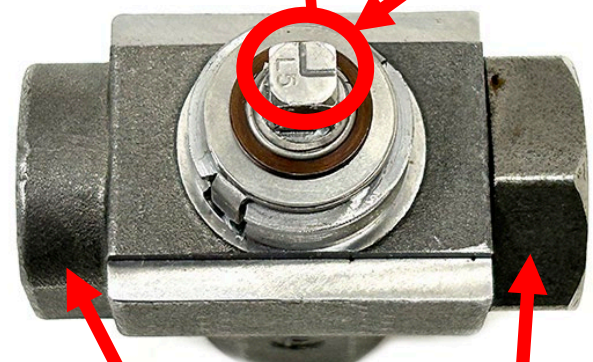

Figure 3
3. Ensure the "L" on the top of the valve stem is oriented towards the top right corner of the valve, (front) towards the filter pan pickup of the fryer as shown in Figure 3. If not, carefully rotate the stem to match Figure 3.